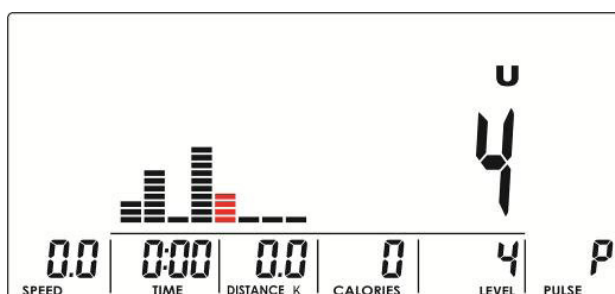

Figure 16
1. Choose the user-defined programme (U) and confirm with the Mode button.
2. Set the resistance level for each segment with the jog dial and confirm each segment with the Mode button (Fig. 16).